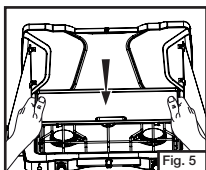

Fig. 5
- Place griddle on pot support, if equipped. (Fig. 5)